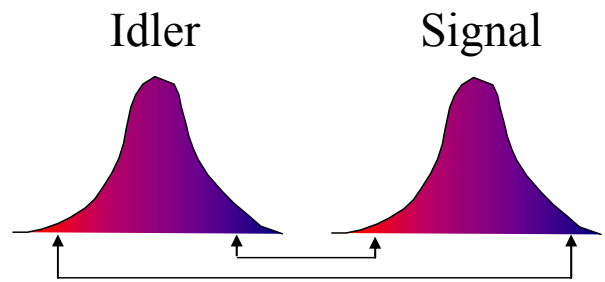

Fig. 2 Correlations between the frequencies of the signal and idler beams. If the idler frequency increases, the signal frequency decreases, and vice versa.
However, for a given crystal orientation, there is not a unique solution to the constraints imposed in Eqs. (1)-(3). The sums of the frequencies and wavevectors are constrained, but not the individual frequencies and wavevectors. As shown in Fig. 2, if the idler frequency is somewhat more than half the pump frequency it is possible for energy to be conserved, Eq. (1), if the signal frequency is an equal amount less. In order for momentum to be conserved, Eq. (2), the signal then makes a slightly greater angle with respect to the pump, and the idler makes a slightly less angle. Thus, the light coming out of a down conversion crystal is emitted into a range of angles (up to several degrees), and wavelengths (on the order of 10's of nm, centered about twice the pump wavelength.)